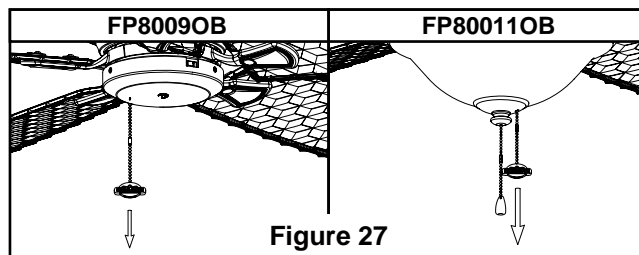

Figure 27
2. Check the operation of the fan by gently pulling on the fan speed pull chain. (Fig. 27)